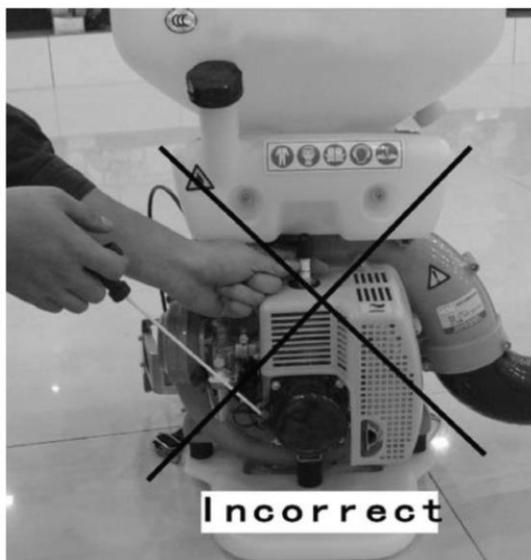

Fig 13
- (1) Engine starts difficultly or can not start. Check if the sparking plug has sparked-over. Screw down the sparking plug, put the side pole to touch the cylinder. Pull the starter and watch between the poles of sparking plug whether there are sparks. Pull the starter carefully, do not touch the metal part of sparking plug for prevention of getting an electric shock as shown in Fig.13.